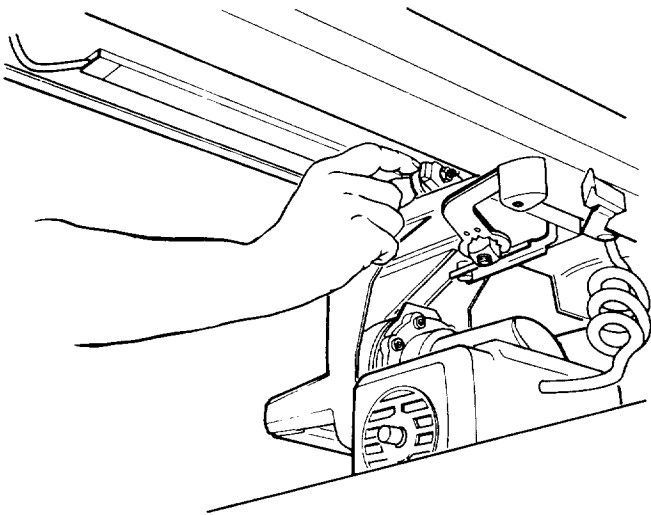

Fig. 83
12. Pinch the *front carriage bearing* with your fingers as tightly as possible while you pull the *motor* forward with the other hand. Try to keep the *carriage bearing* from turning. (Figure 83)